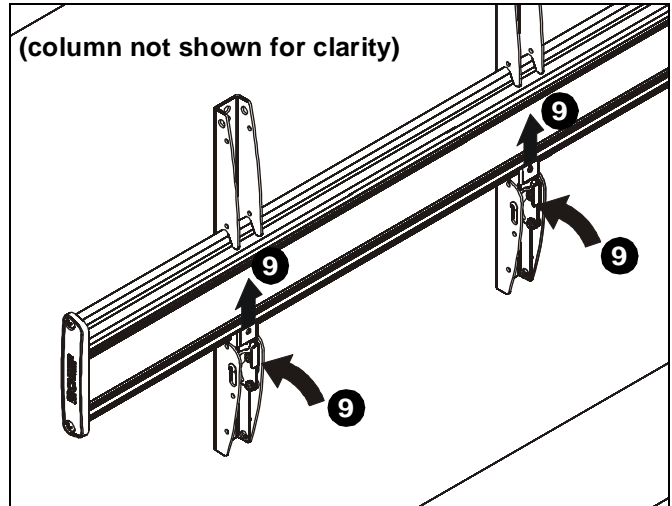

Figure 9
9. Move latches on interface uprights to the "closed" position to secure display to head assembly. (See Figure 9)